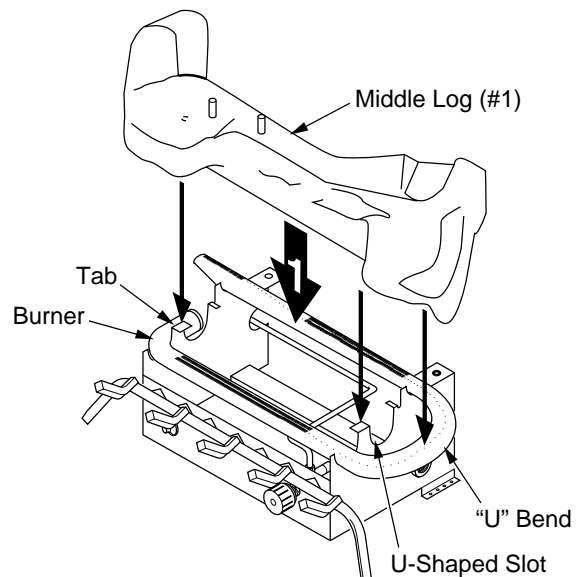

Figure 23 - Installing Middle Log (#1)
- Place the base of the middle log (#1) in the U-shaped slots of the grate base. The cutout on the right of the middle log should fit over the burner (see Figure 23). Make sure the front of the middle log is resting on the tabs of the grate base and the cutout area is centered over the burner "U" bend.